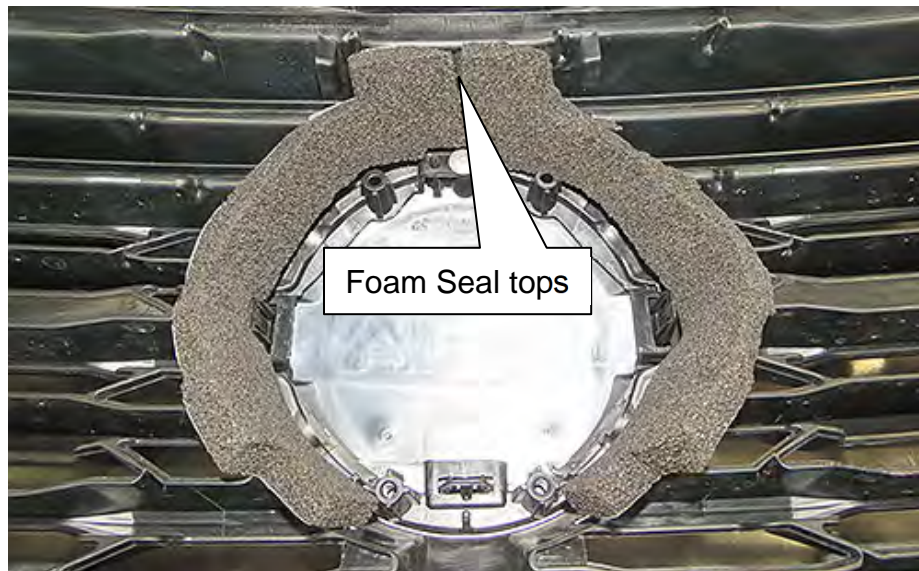

Figure 9
- Both Foam Seals must seal against each other at the top.**HINT:** Figure 9 shows both Foam Seals installed.